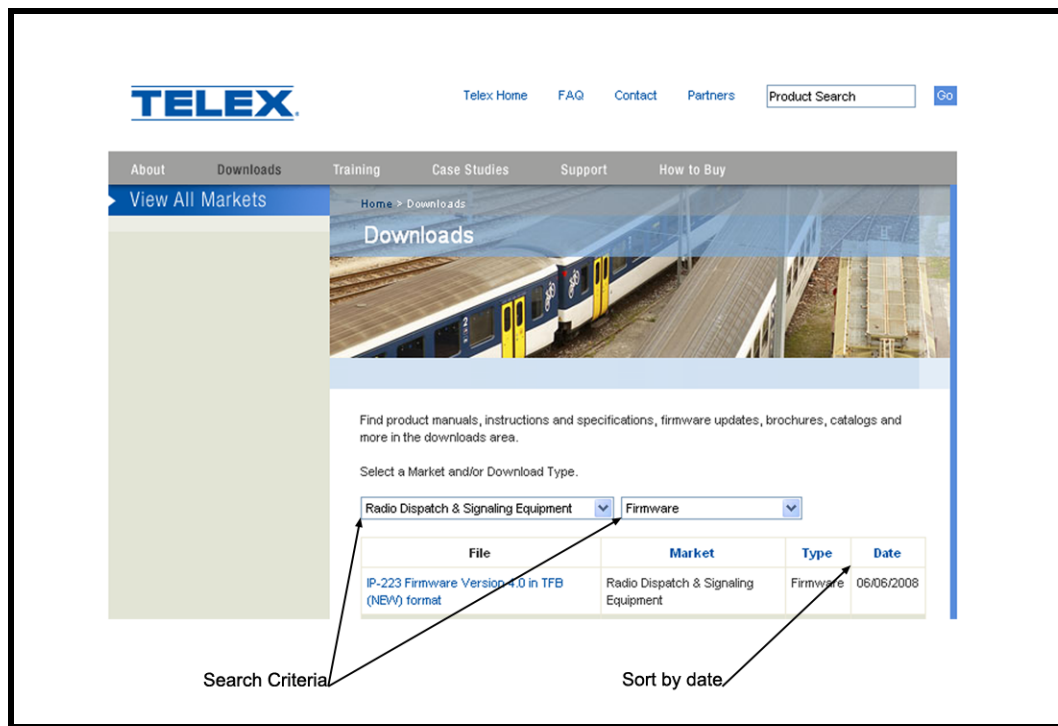

FIGURE 137. Telex Website Firmware Downloads.
1. Set the search criteria to **Radio Dispatch & Signaling Equipment** and **Firmware**, see Figure 137.